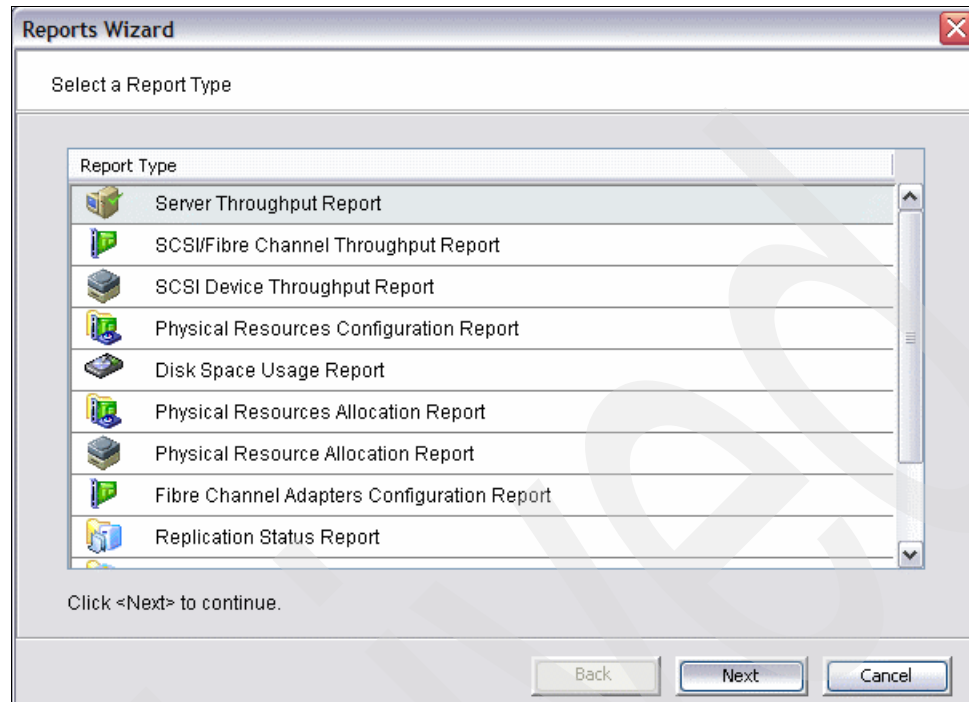

Figure 11-2 Report selection list
2. You will now see a list of all the reports you are able to generate (Figure 11-2). Select the report type you wish to view and click **Next**.